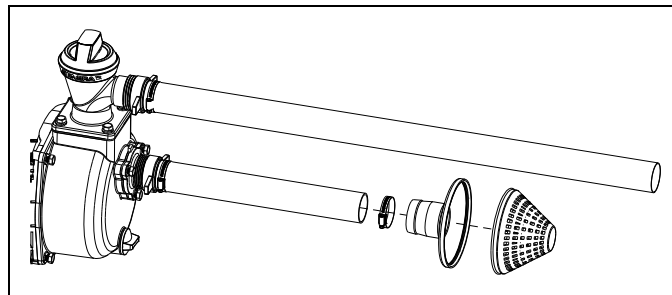

Figure 4-8. Attach Filter
4. Attach the filter to the suction hose by inserting the barb end into the suction hose and securing with a hose clamp. Then attach the filter end (Figure 4-8).